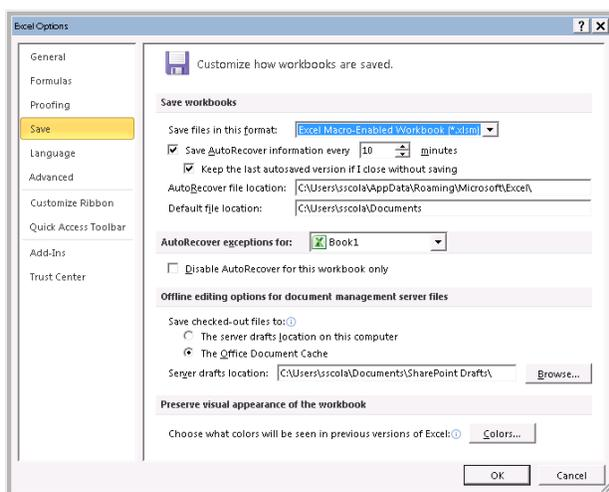

Figure 1. Turn off Compatibility Mode
1. Go to Excel Options (either from the Button in Excel 2007, or the File menu in Excel 2010). A dialog will appear as shown in Figure 1.
4. The Options window should look like Figure 1.